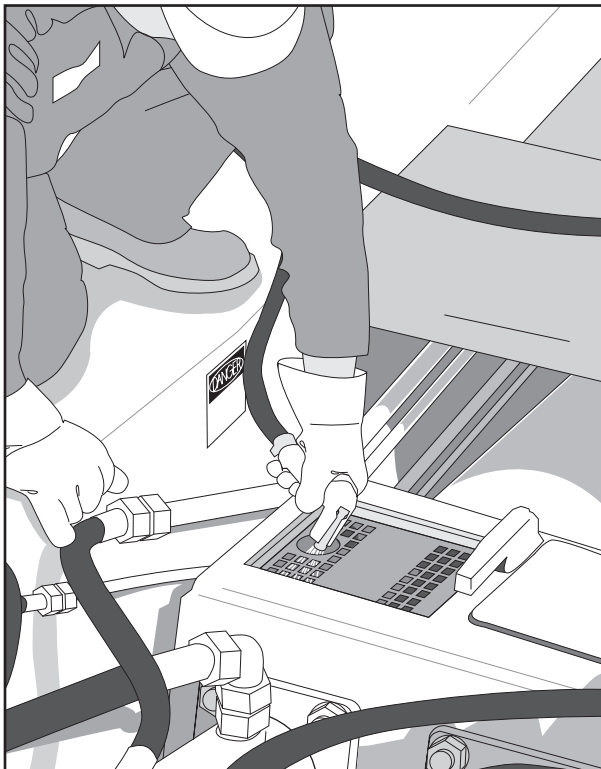

Figure 4
- Remove the waterbox cover and fill the waterbox with water (Figure 4). **Do not remove the waterbox grate for this procedure.** The remote fill valve can also be used.